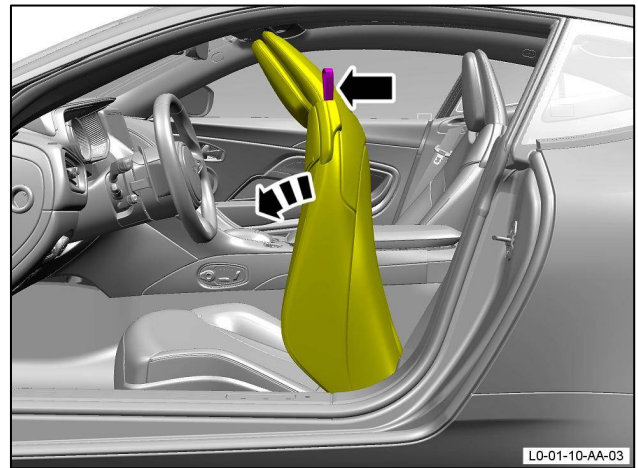

Figure 2
2. Pull the release handle to tilt the seat to its fully forward position (refer to Figure 2).